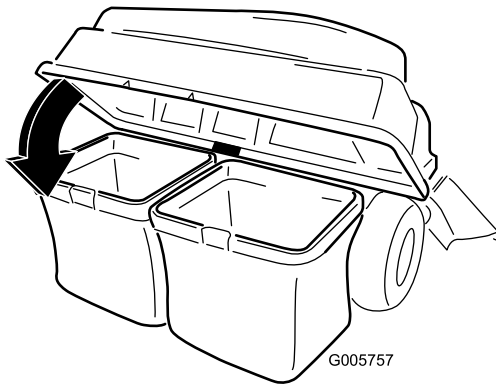

Figure 13
6. Lower the bagger hood onto the bag (Figure 13).